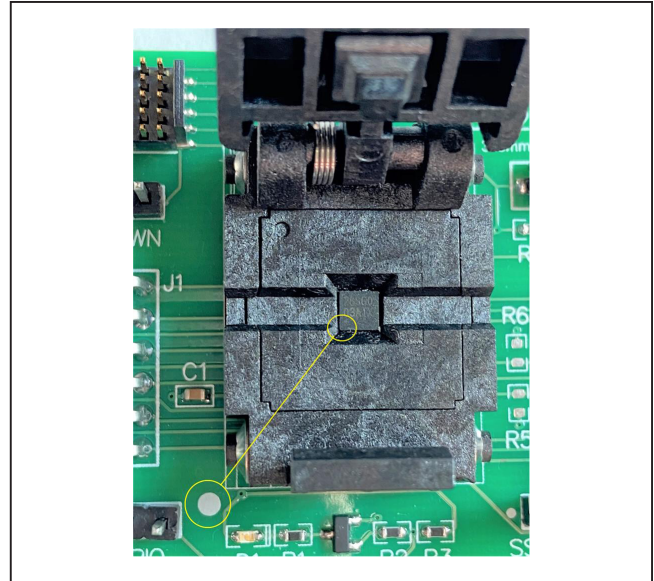

Figure 7. Orientation of the DS28S60 in Burn-In Socket
- a. Open socket and insert a DS28S60Q+ as shown in Figure 7. **Note:** Do not use the socket's pin 1 indicator. The pin 1 indicator is denoted on the PCB as a white dot and is located on the opposite side of the socket's marking.